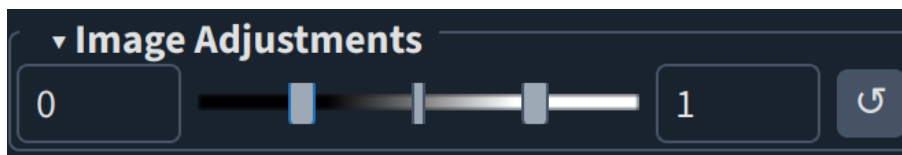
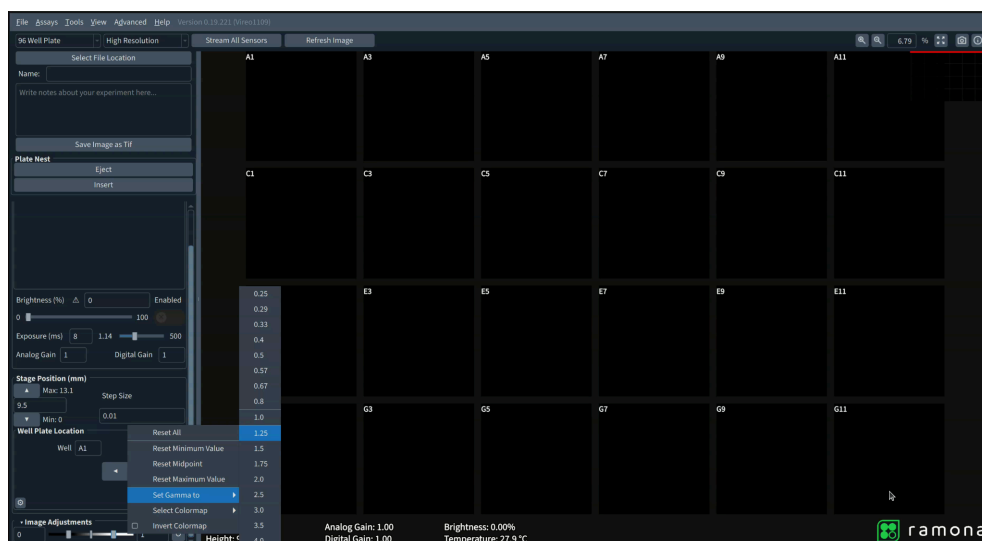

Fig 12: GUI contrast settings.
Fig 13: GUI contrast settings.
**Gamma:** Adjusting this value will control the encoded image’s sensitivity to bright and dark tones and is an effective method of controlling the overall image contrast as perceived by humans (Fig 12). Reducing Gamma will decrease shadows and darker tones yielding a brighter image. Right-clicking on the Gamma bar allows users access to predetermined Gamma levels (Fig 13).